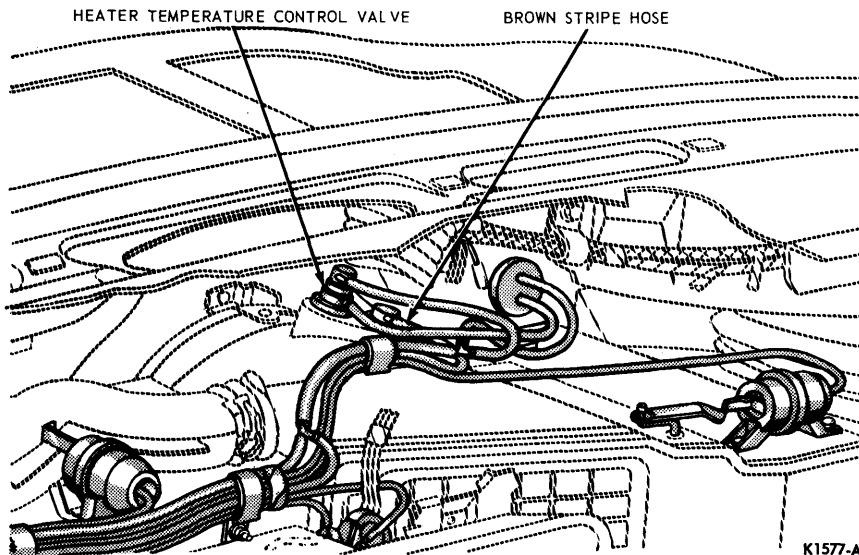

FIG. 12—Temperature Control Valve Mounting
1. Connect the three vacuum hoses to the new valve (Fig. 12), position the valve to the plenum chamber and install the two retaining screws.